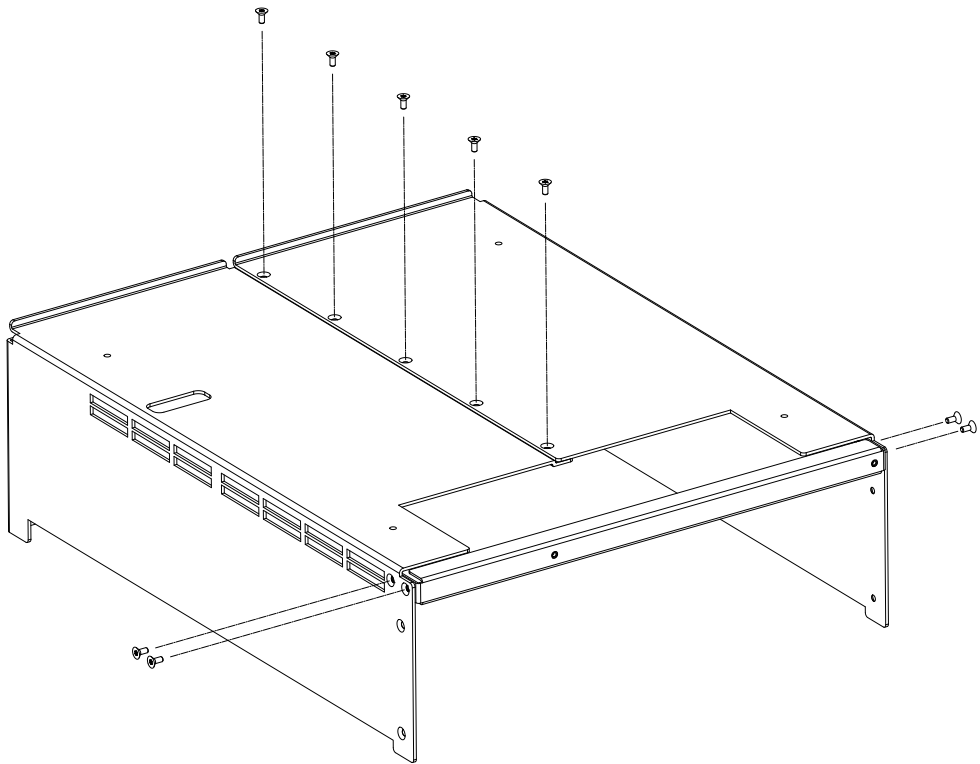

Figure 1 Preparing the frame
- 1 According to **Figure 1** on page -21, join the left and the right bracket using a Torx T20 screwdriver and 5 screws: M4x0.7 10mm counter sink, part number 0515-2044, torque 3 Nm (26-in-lb).